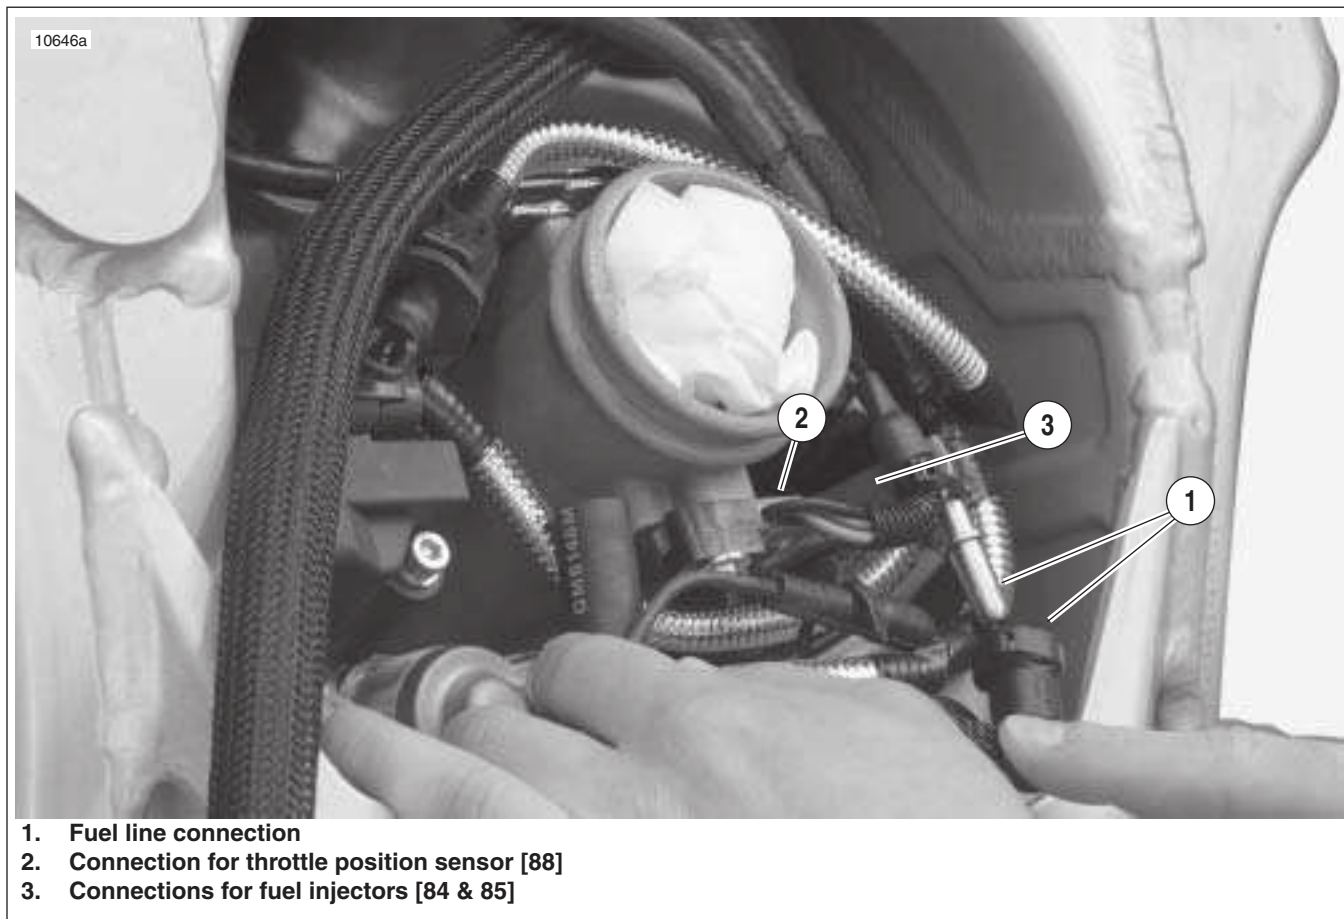

Figure 3-13. Fuel Line and DDFI Electrical Connections (Typical)
13. See Figure 3-13. Connect throttle position sensor (2) [88].
14. Connect fuel injector leads (3) [84 & 85].